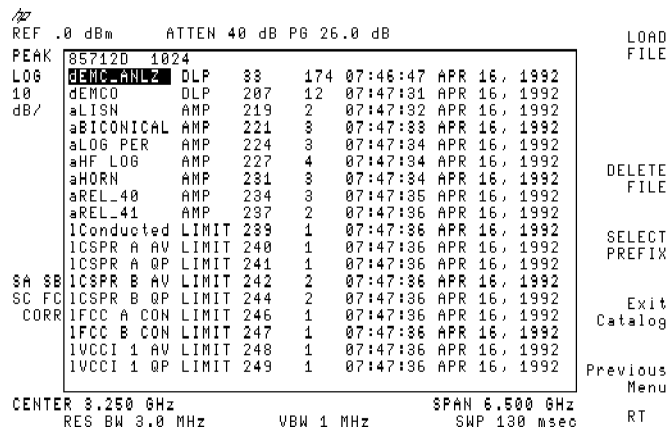

Figure 2-2. Selecting the dEMC_ANLZ File
5. Press **CATALOG CARD**, **CATALOG ALL** (**dEMC_ANLZ**, the EMC personality, will be highlighted, see Figure 2-2), and **LOAD FILE**. The **LOAD FILE** key will be highlighted while the EMC personality is being loaded. It takes about 35 seconds for the analyzer to load the EMC personality. Limit lines and transducer factors must be loaded separately from the card. The EMC personality's **Load Setup** softkey may also be used.